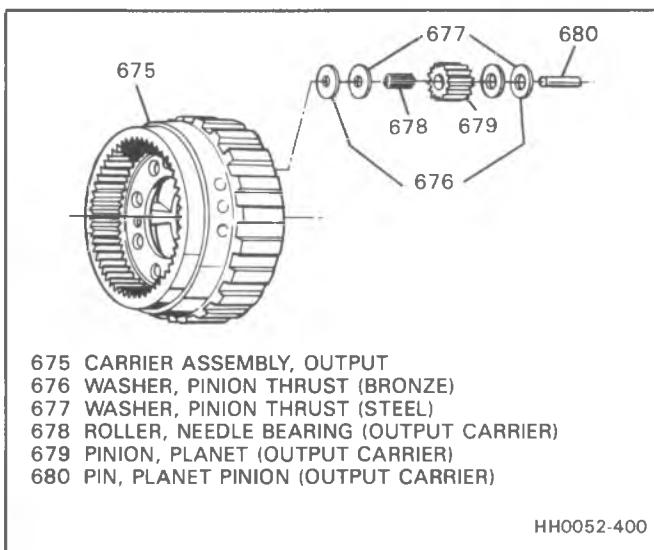

Figure 38 - Output Carrier Assembly
1. Stake marks from pinion pins (680) with 1/2" drill.
2. Pinion pins (680) from carrier (675).
3. Pinion gears (679) thrust washers (676, 677) and roller needle bearings (678).
**Inspect (Figures 38 and 39)**
- Output carrier (675) for:
**Assemble (Figures 38 and 39)**
1. Needle bearings (678) in pinion gears (679).
2. Bronze (676) and steel (677) thrust washers on each side of pinion gears.
3. Pinion gear assemblies into carriers (675).
4. Pinion pins (680).